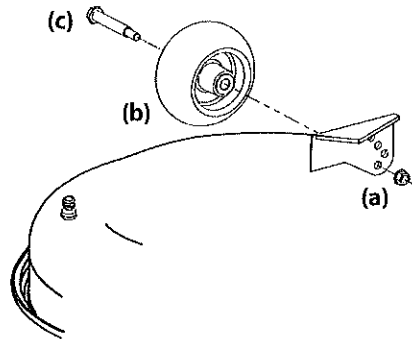

Figure 2-13
- a. Remove the lock nut securing one of the front gauge wheel shoulder screws to the deck. Remove the gauge wheel and shoulder screw. See Figure 2-13.